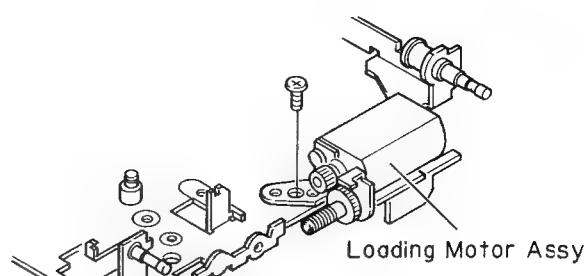

Fig.17
12. Remove the screw, and then remove the loading motor assy.(Fig.17)